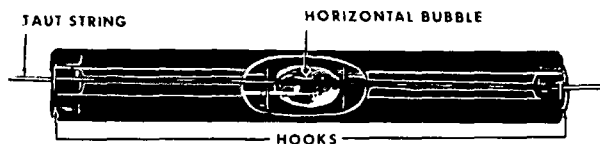

Figure 26. Line level.
d. Line Level. The line level (fig. 26) consists of a bubble tube set into a metal case with a hook at each end to permit it to be suspended from a line or cord. The line level is particularly useful when the distance between two points to be checked is too long to permit the use of the carpenter's level.